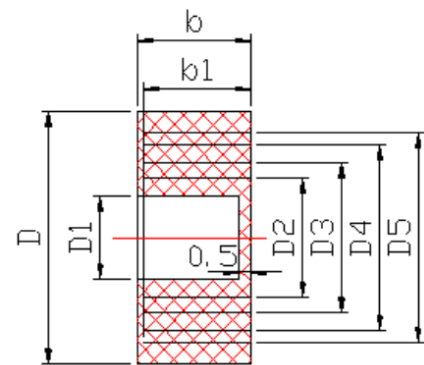

图 3
7.2.6 External diameter of the cable should fit bore diameter of the seal ring (Figure 3). The min diameter of cable is D1, max D5, seal ring is of Nitrile rubber NBR, specification and dimension see table 4(concentric-ring of seal gasket can be striped off to fit inner diameter of incoming cable). The diameter gap should not exceed 1mm. Clamp the connection plug and ensure that there is no clearance between seal ring and power cable as well as between seal ring and connection box body, otherwise the motor will lose its explosion-proof function.